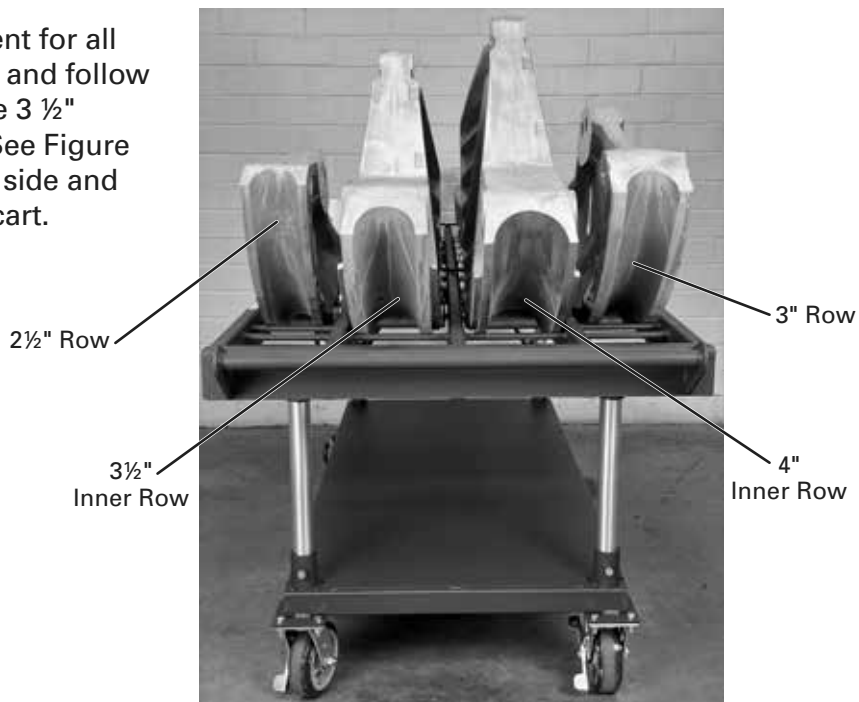

Figure 7
2. Decals indicate correct placement for all components. To load the shoes and follow bars onto the cart, start with the 3 ½" and 4" inner rows of the cart. (See Figure 7). Lift the gate from the spring side and rotate towards the front of the cart.